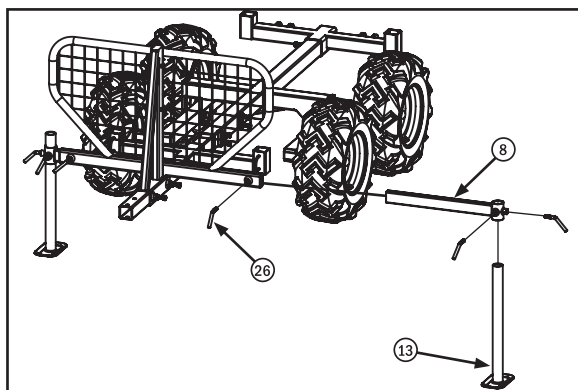

Fig. 13
Step 13: Install the Stabilizers. Insert a Stabilizer Leg (13) into the Stabilizer Extension (8) and use two Lock Handles (26) to hold the leg in place. Insert the Stabilizer Extension (8) into the Safety Guard (10) and use one Lock Handle (26) to secure it in place (Fig. 13). Repeat this step for the other side.